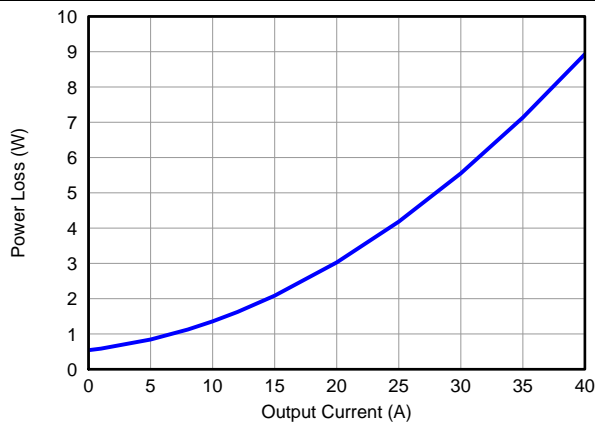
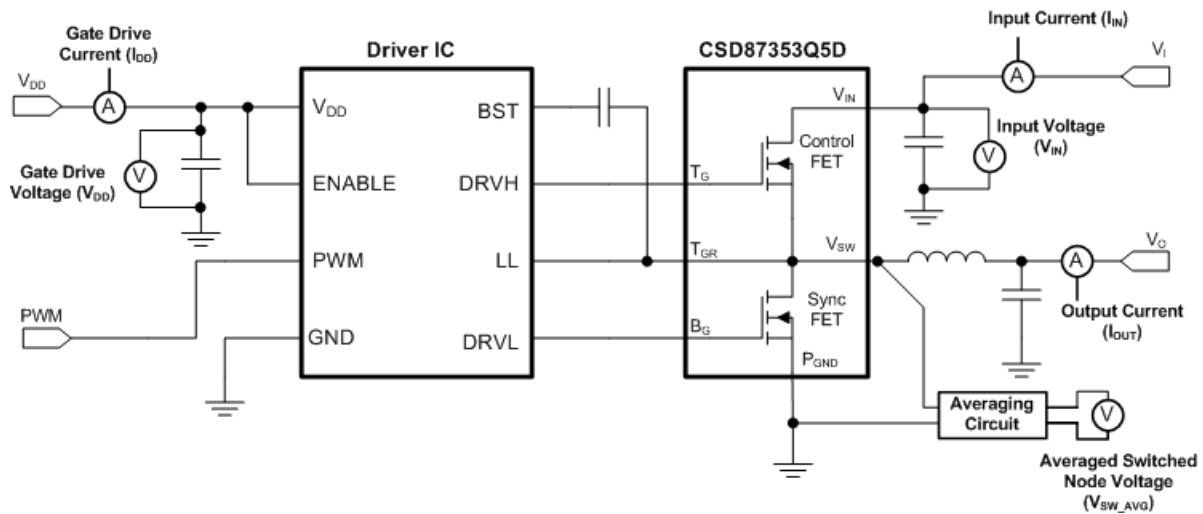

Figure 1. Power Loss vs Output Current
Figure 32. Typical Application
MOSFET centric parameters such as $R_{DS(ON)}$ and Q_{gd} are needed to estimate the loss generated by the devices. In an effort to simplify the design process for engineers, Texas Instruments has provided measured power loss performance curves. Figure 1 plots the power loss of the CSD87353Q5D as a function of load current. This curve is measured by configuring and running the CSD87353Q5D as it would be in the final application (see Figure 32). The measured power loss is the CSD87353Q5D loss and consists of both input conversion loss and gate drive loss. Equation 1 is used to generate the power loss curve.
The power loss curve in Figure 1 is measured at the maximum recommended junction temperatures of 125°C under isothermal test conditions.
- Power loss at 25 A = 4.2 W (Figure 1)